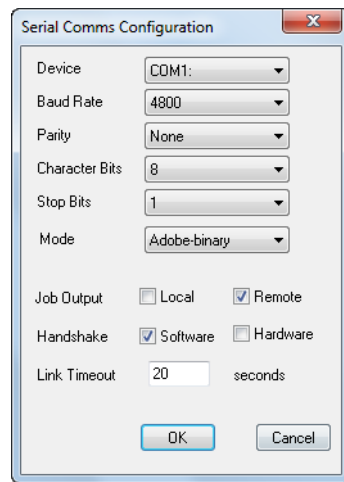

Figure 8.7 Serial Comms Configuration dialog box
3. Click the **Configure** button. The Serial Comms Configuration dialog box appears, as shown in Figure 8.7. Make the settings you wish, and click **OK**.